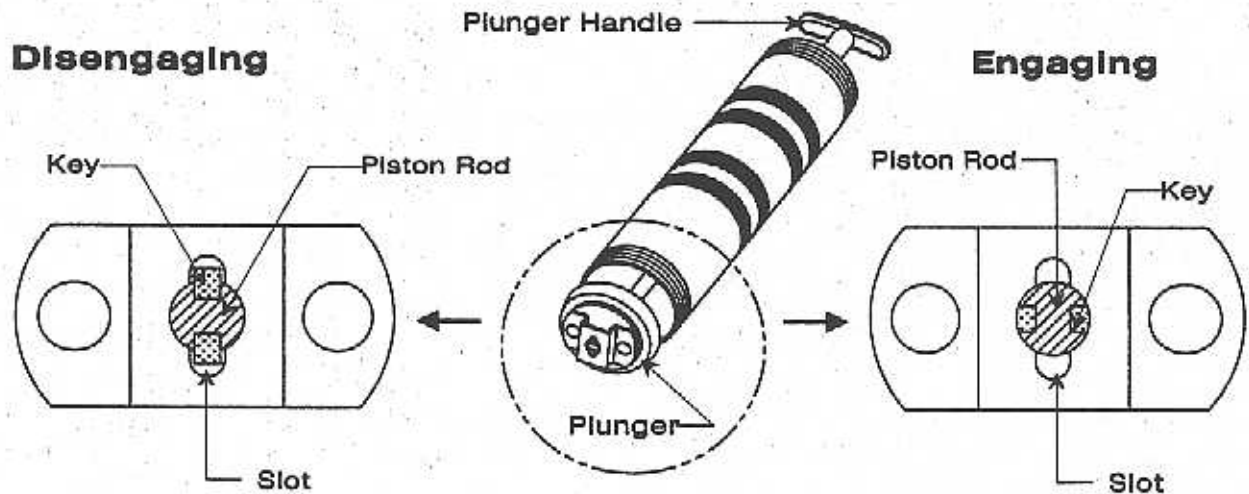

Fig.4
- If the gun still fails to work. Draw back the piston rod fully and 'Engaging' it with plunger by rotating the plunger handle about $1/4 \sim 1/2$ turns to set the position of key. See Fig.4
1. Set the plunger in 'Engaging'. See Fig.4